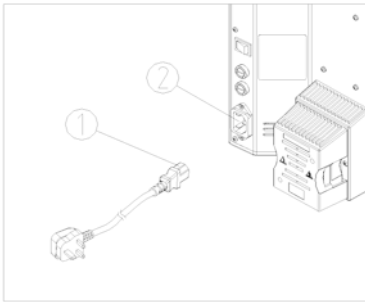

Fig. 10
(1) Make sure the power switch is in the "O" (OFF). (See Fig. 10)
(2) Fully insert the power cord ① into the power socket ② of the microscope.
(3) Fully insert the wall connector into a wall socket.